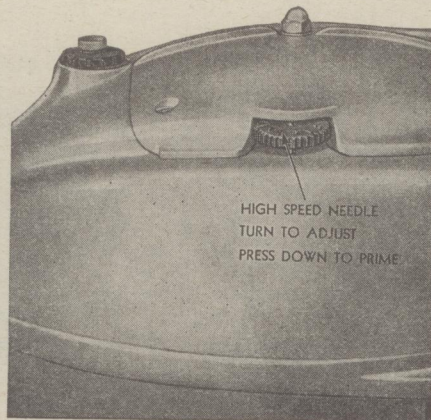

Fig. 10
6. Prime—(primer and high speed needle on carburetor are interconnected—press to prime and turn to adjust). Depress primer—needle button three or four times to obtain necessary rich starting mixture, when motor is cold. Fig. 10.
2. Close high speed needle, Fig. 10, turn right until it rests gently on its seat, then unscrew approximately $\frac{3}{4}$ turn. Turn left.)